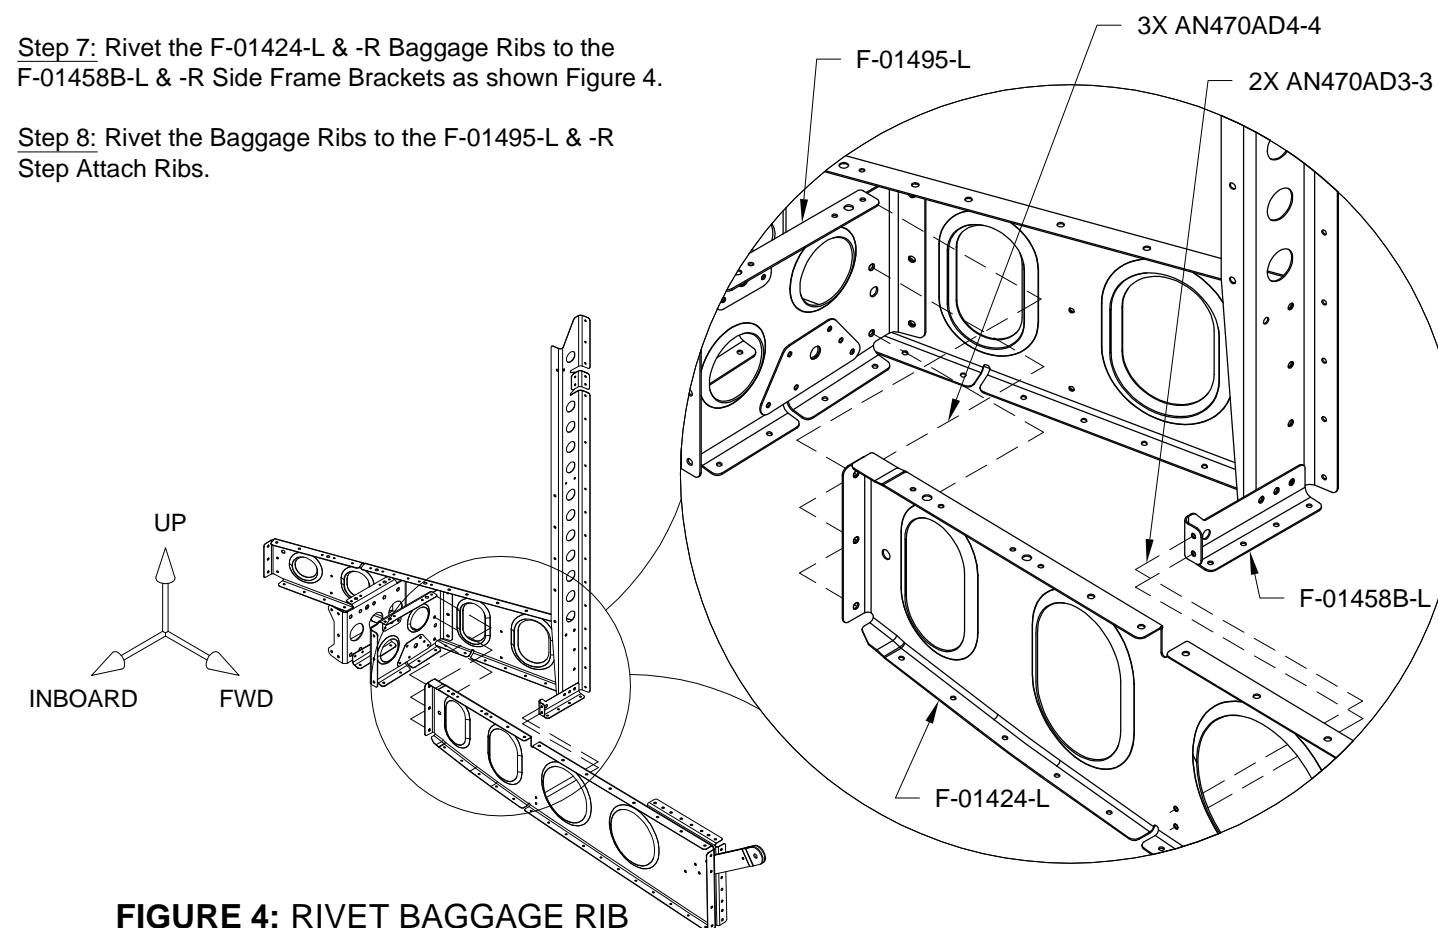

FIGURE 4: RIVET BAGGAGE RIB
Step 7: Rivet the F-01424-L & -R Baggage Ribs to the F-01458B-L & -R Side Frame Brackets as shown Figure 4.